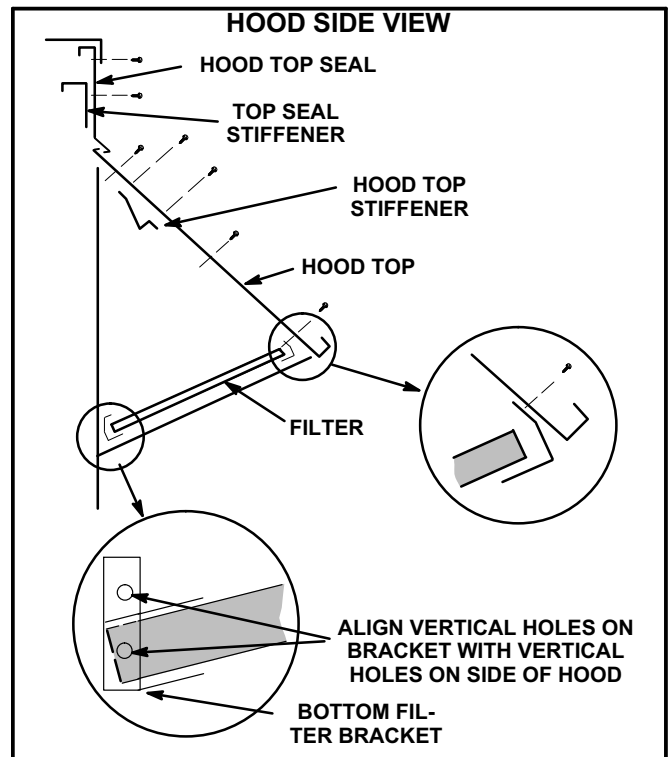

FIGURE 21
- 5- Secure hood top stiffener to unpainted side of the hood top with ten screws. See figures 21 and 22.
- 14- Align the two holes on the left hood side with the two holes in the bottom filter bracket. See figures 21 and 23. Secure with screws.
- 15- Secure bottom filter bracket to right hood side in the same manner. See figures 21 and 24.
- 17- Secure the top filter bracket (long) to the hood top. See figures 21 and 22. Slide two filters into place.
- 18- Insert the third filter into the bottom filter bracket. Position the top filter bracket (short) as shown in figures 21 and 22. Secure the bracket to the hood top with screws.